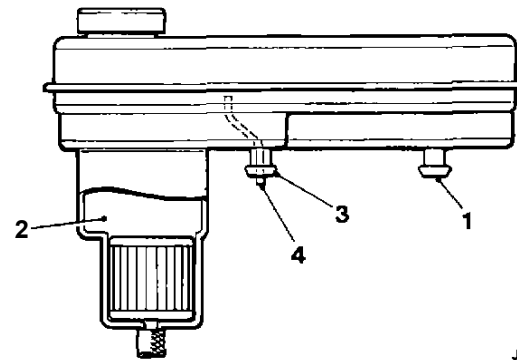

Fig. 2
3. For the return flow from the booster (3 Fig. 2), the rear brakes (2 Fig. 2), the valve block and the position sleeve (4 Fig. 2).